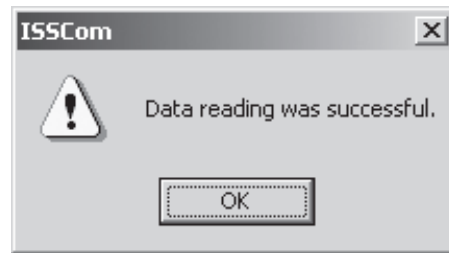

Figure 3-51 ISScom Data Reading Successful Confirmation Screen
1. From the ISScom Main Screen select **System/Read Data From System**. ISScom will read the data from the target MBTS and when complete display a confirmation screen (Figure 3-51).